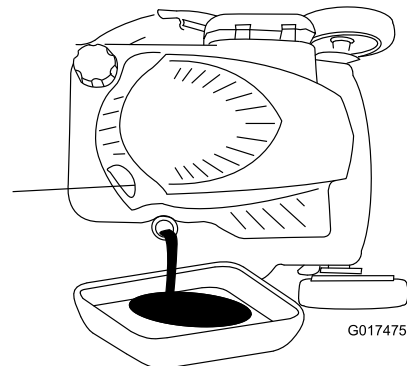

Figure 22
4. Tip the machine onto its side, with the dipstick down, to drain the used oil out through the oil-fill tube (Figure 22).